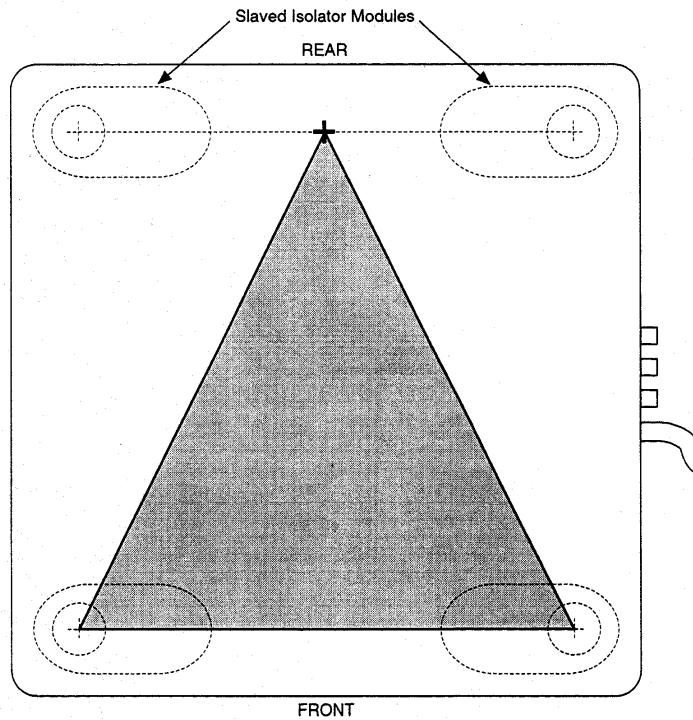

Figure 4
After setting up the BenchTop and connecting the air supply, place your payload so that the center of gravity falls within the shaded area shown in Figure 4. Then slowly increase the pressure until the BenchTop begins to float (e.g. one of the edges rises). Note the pressure at which this occurs, then add 5-10 psi.
3. Unit sags to one side	<ul style="list-style-type: none"> a. Confirm that the payload center of gravity is within the shaded area in Figure 4. b. Increase air pressure to 40 psi max. c. Adjust floating height adjustment screws per Section 4.0, paragraph "d".